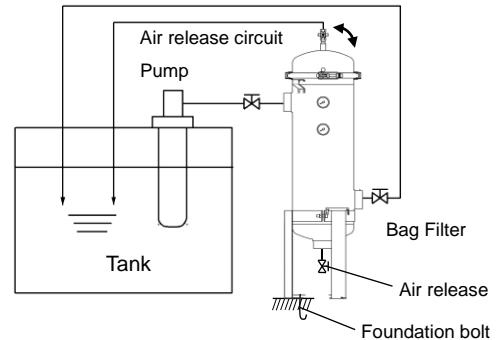

Fig. 1-1 Example of the circulating filter circuit
① Use a circuit which does not apply much pressure or load fluctuation to the filter. (Fig. 1-1)